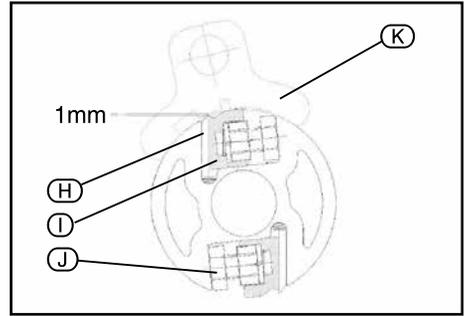

FIG. 15
8.8 INSTALLING THE KNIFE BLADE – FIGS. 15 – 18